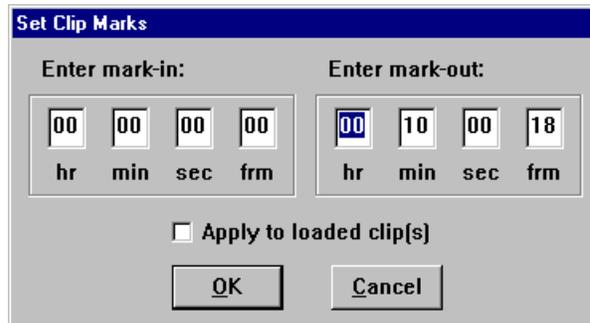

Figure 74. Set Clip Marks dialog box
2. Choose **Controller | Clip Length**. The Set Clip Marks dialog box appears (Figure 74).